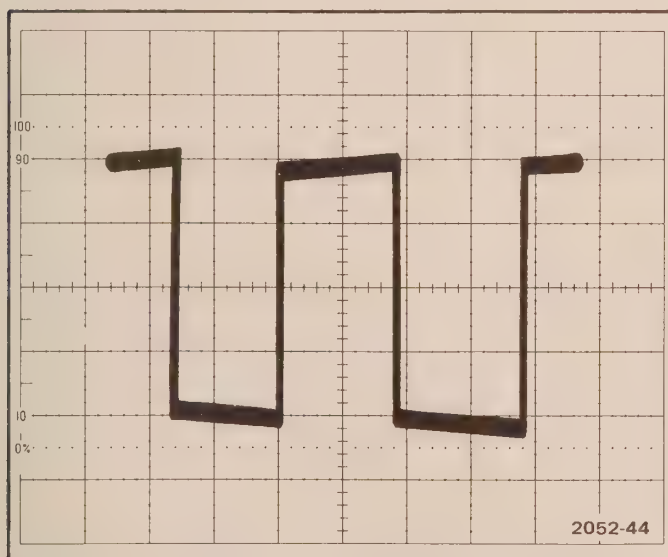

Fig. 3-4. Example of correct compensation.
g. Refer to Fig. 3-4 for example.